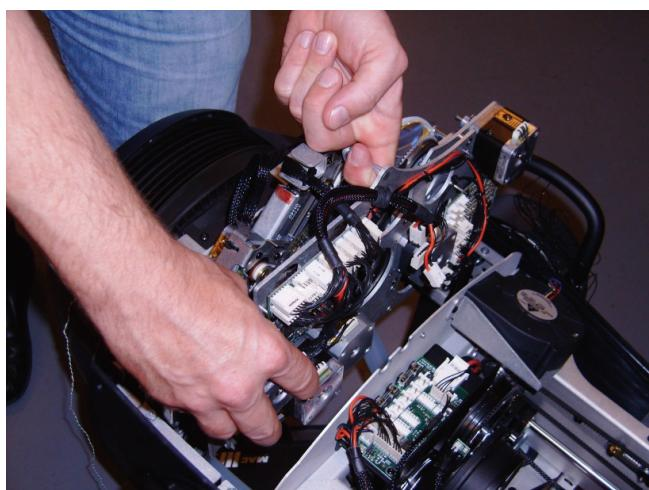

Figure 6
- See Figure 6. Lift the projection module together with its two mounting screws out of the fixture. Store the module for possible re-use if the fixture is to be returned to standard MAC III Profile configuration at a later time.